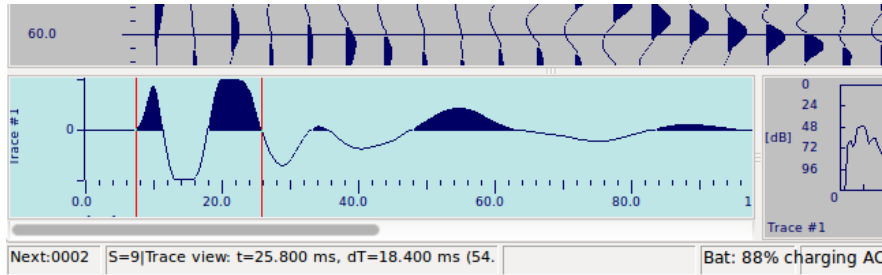

Figure 28 A reference time marker with timeline
- Move the timeline and show relative time (Figure 28)